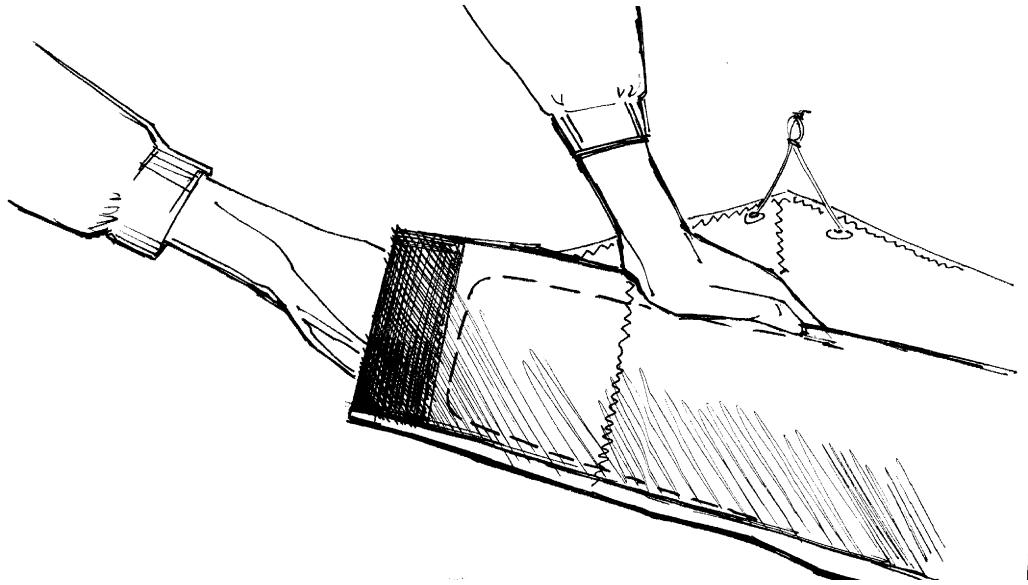

Fig.7
2.1.8. Lay and spread the sail. Spread the leading edge of the sail so that there are no folds and bends in it. Pushing the mylar by both edges insert it into the leading edge pocket. Bow - shaped edge of the mylar must pass on the side of the seam that joins the top and bottom surface and the leading edge of the sail (Fig.7).
It's more easy to pull last 20-30 cm by your hand using a chink between the leading edge and top surface of the sail on the wing tips. (Fig.7).